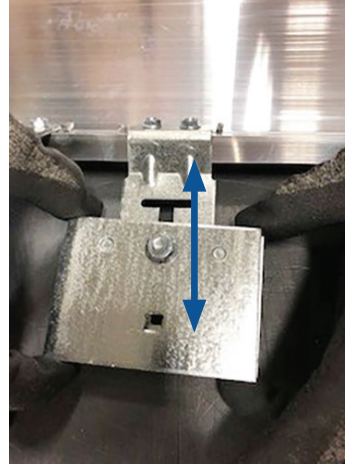

Figure 3B: Weight stack slid outward on counterbalance bracket
- Slide the weight stack outward from the damper blade in $\frac{1}{4}$ in. (6 mm) increments and tighten the $\frac{7}{16}$ in. nut securing the weight stack to the counter balance bracket (see Figure 3B).